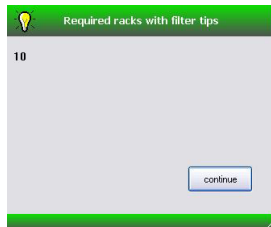

Figure 18. Required racks with filter tips- dialog window
28. Check for the necessary number of racks with filter tips (Fig. 18).